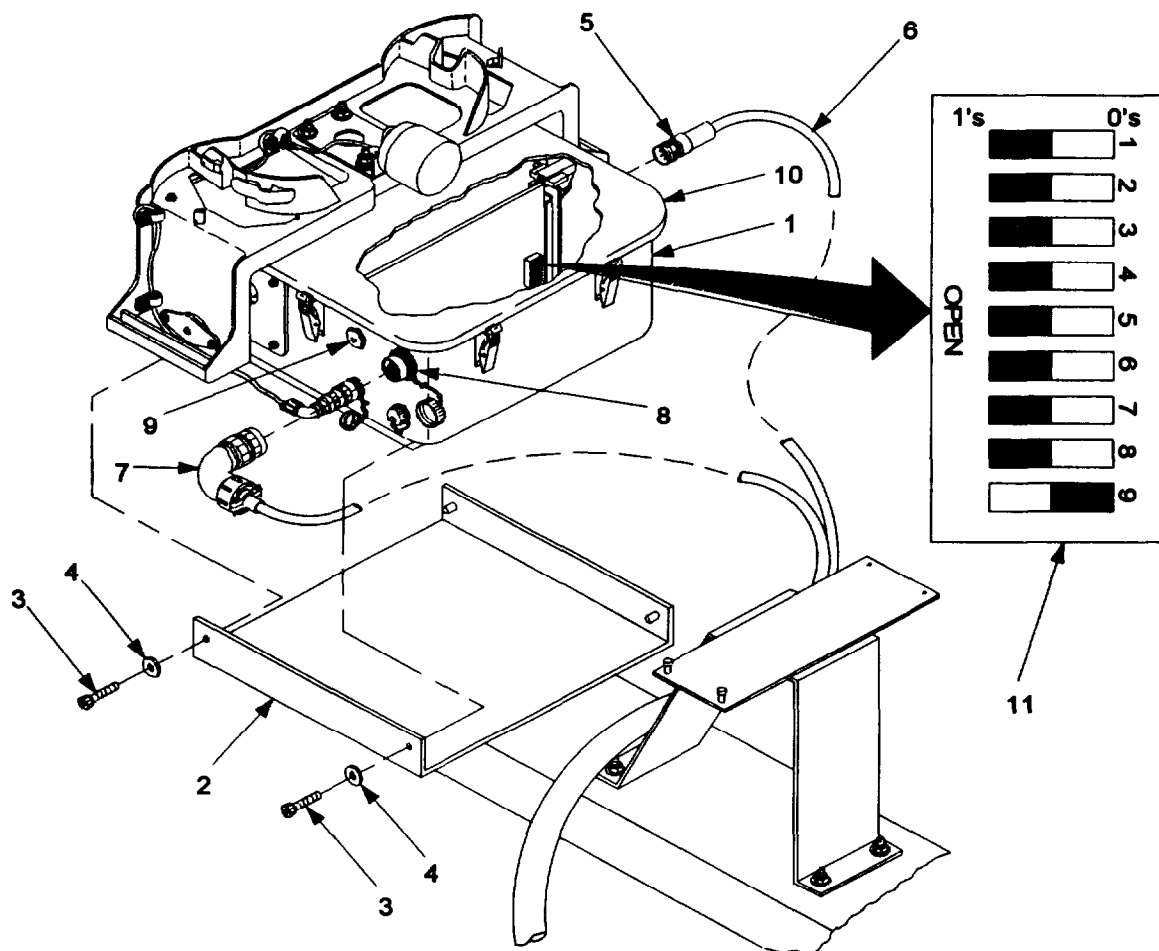

Figure 2-5. Installation of ITM on IMTC.
- (18) Refer to figure 2-5. Position ITM (1) on target mechanism assembly plate (2).